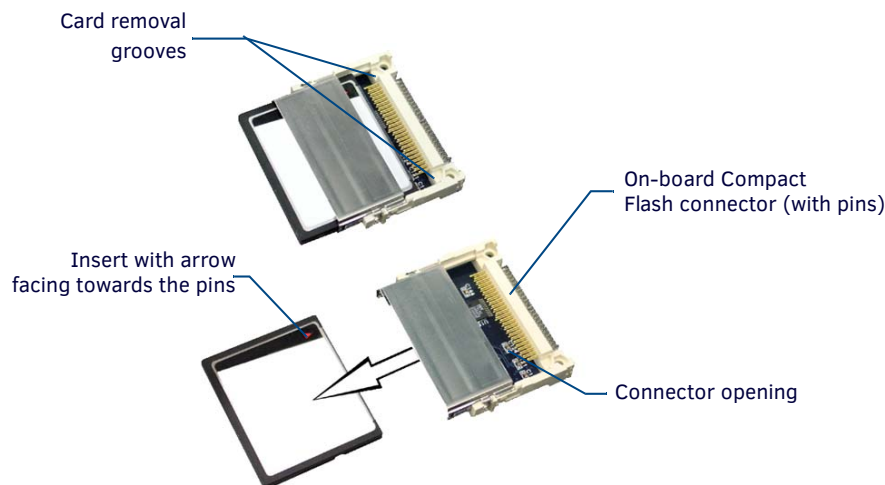

FIG. 21 Removing/installing a Compact Flash Memory card
2. Insert the tip of a grounded flathead screwdriver into one of the card removal grooves (located on either side of the card), and gently pry the card out of the slot (FIG. 21). Repeat this process on the opposite card removal groove. This alternating action causes the card to "wobble" away from the on-board connector pins.